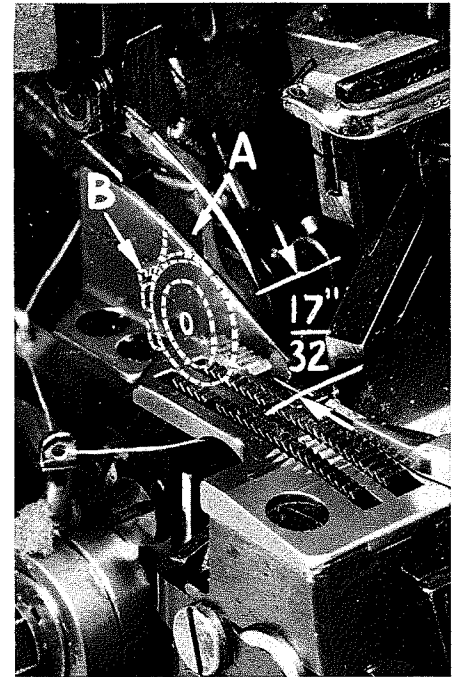

Fig. 3
With throat plate in position, needle should center in the front end of needle slot. When needle is at high position, needle point should be set $17/32$ inch above throat plate (Fig. 3). Move needle driving arm (A, Fig. 3) by loosening clamp screw (B). Remove throat plate.